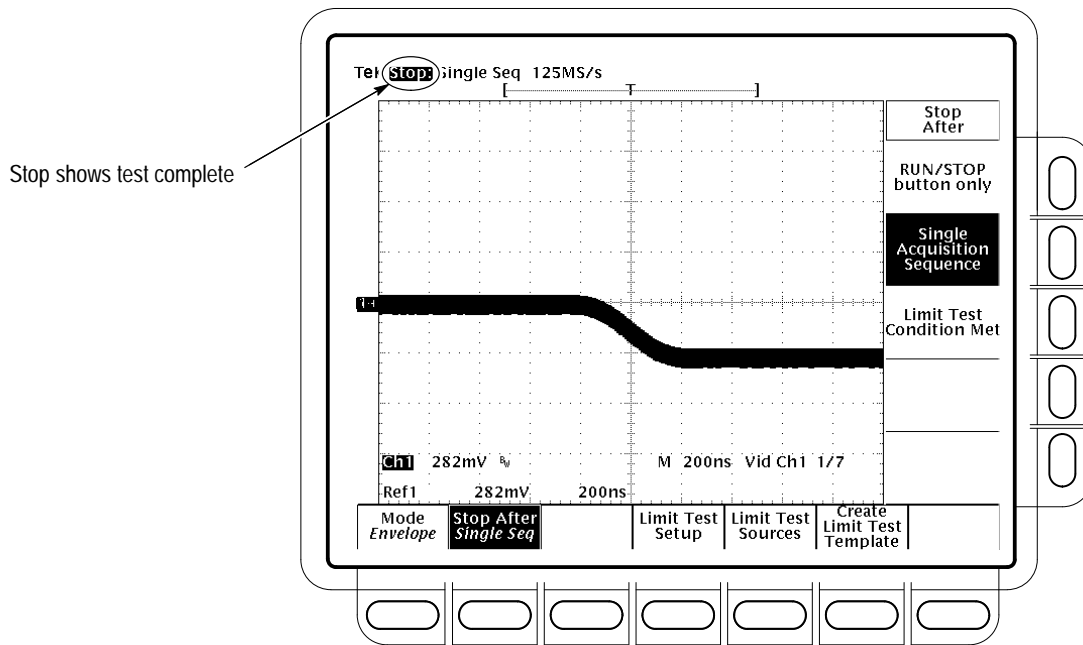

Figure 4–27: Jitter Test When Completed – TDS 684A Shown
- v. Confirm that the oscilloscope successfully makes 100 acquisitions. If not successful, the oscilloscope bell will ring. When the word **Run** in the top left corner of the display changes to **STOP**, the test is complete. See Figure 4–27.